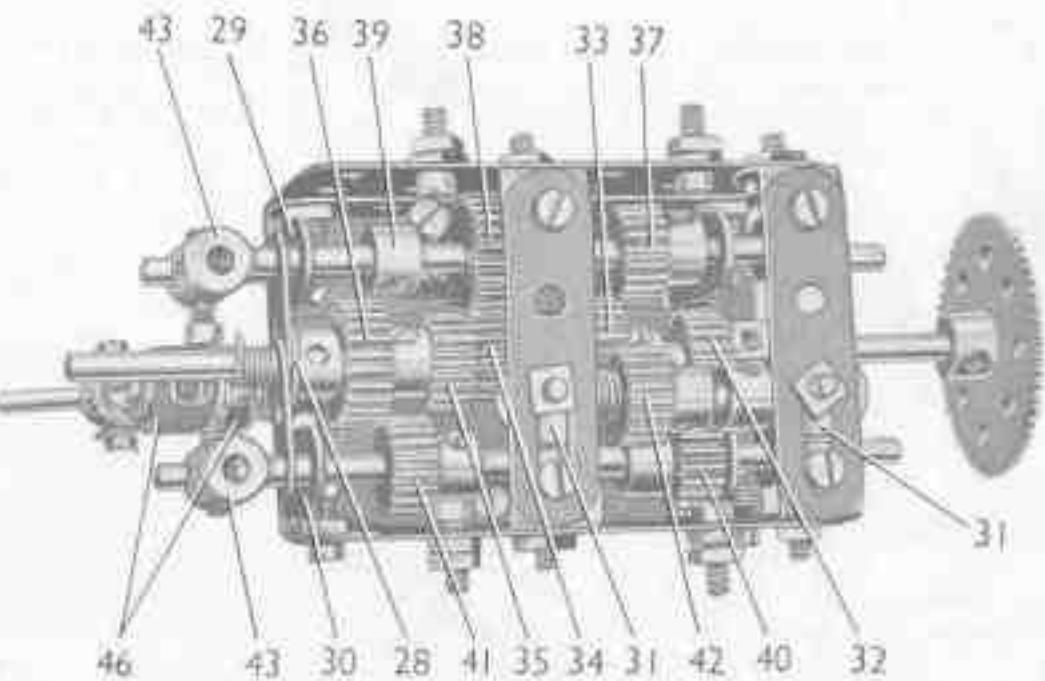

FIG. 7. A close-up of the 3-speed and reverse gear-box.
### Assembling the Gear-Box (Fig. 7)
A  $3'' \times 13''$  Flat Plate is attached to each Angle Girder. The bolts that connect the Flat Girders secure also a  $1'' \times 1''$  Angle Bracket (28—Fig. 7), and a similar part at the opposite end of the frame. A  $1'' \times 3''$  Angle Bracket is also fixed to the centre of the Flat Girders, with a Fishplate bolted to it, so that the *small* hole in the Fishplate covers the *slotted* hole in the Angle Bracket.
The gear selector shafts are  $4\frac{1}{2}$ " Rods mounted above the layshafts, and each of them carries a Collar fitted with a  $\frac{1}{2}$ " Bolt. The Bolt on the selector shaft for 2nd and 3rd gears engages between the Pinion (38) and the Collar (39). The Bolt on the 1st and reverse gear shaft is located between the Pinion (41) and the Collar. Fishplates are passed over the output shaft and the ends of the layshafts as seen in Fig. 7. A Coupling (43) is fixed to each selector shaft